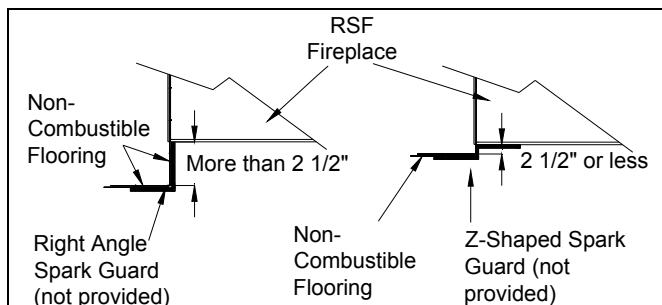

Figure 13 Special Custom-made Spark Guard
If you are preparing a raised installation, you will need a custom made spark guard, either a "Z" shaped spark guard or a right angle spark guard (see Figure 13). The Z-shaped spark guard must be used if the height between the bottom of the fireplace and the top of the non-combustible flooring of the hearth extension is less than or equal to 2½". The height of the Z-shaped spark guard must equal the distance between the floor and the base of the unit and go under the hearth extension and the fireplace by at least 2½". If the unit is installed higher than 2½" from the top of the flooring, a right angle spark guard is necessary. The sides of the right angle spark guard should be at least 2½" x 2½" and must be covered with non-combustible material. Any custom-made spark guard must have the minimum width specified in Table 1 (I), and be installed centered on the door opening.